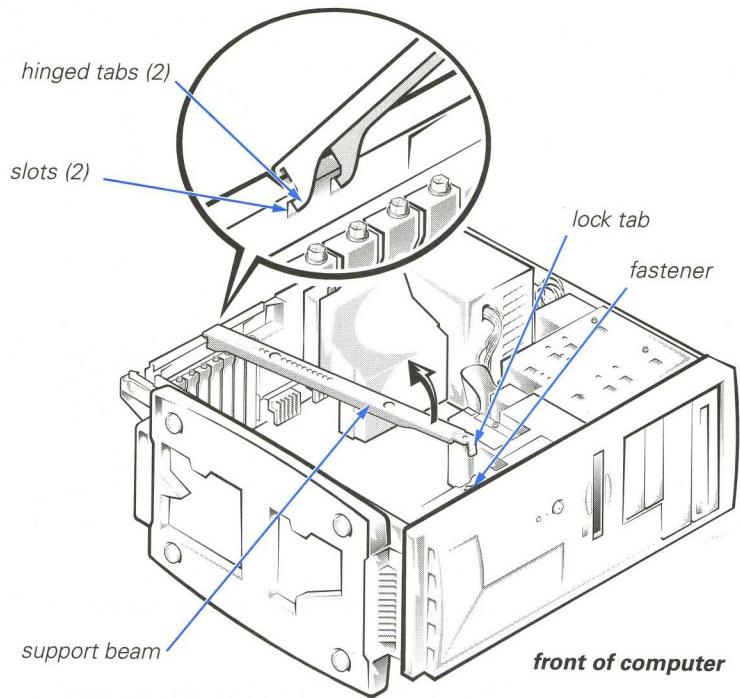

**Figure 2-2. Removing the Support Beam**
5. If your chassis has a support beam attached to it (see Figure 2-2), pull up the front end of the beam until it snaps free from its fastener. Lift the front of the beam until the hinged tabs on the back end of the beam clear their slots.
3. If you removed the support beam from the chassis, slip the beam's hinged tabs into their slots (see Figure 2-2) and lower the beam. Then place the lock tab into its fastener, and press down on the front end of the beam until it snaps into position.